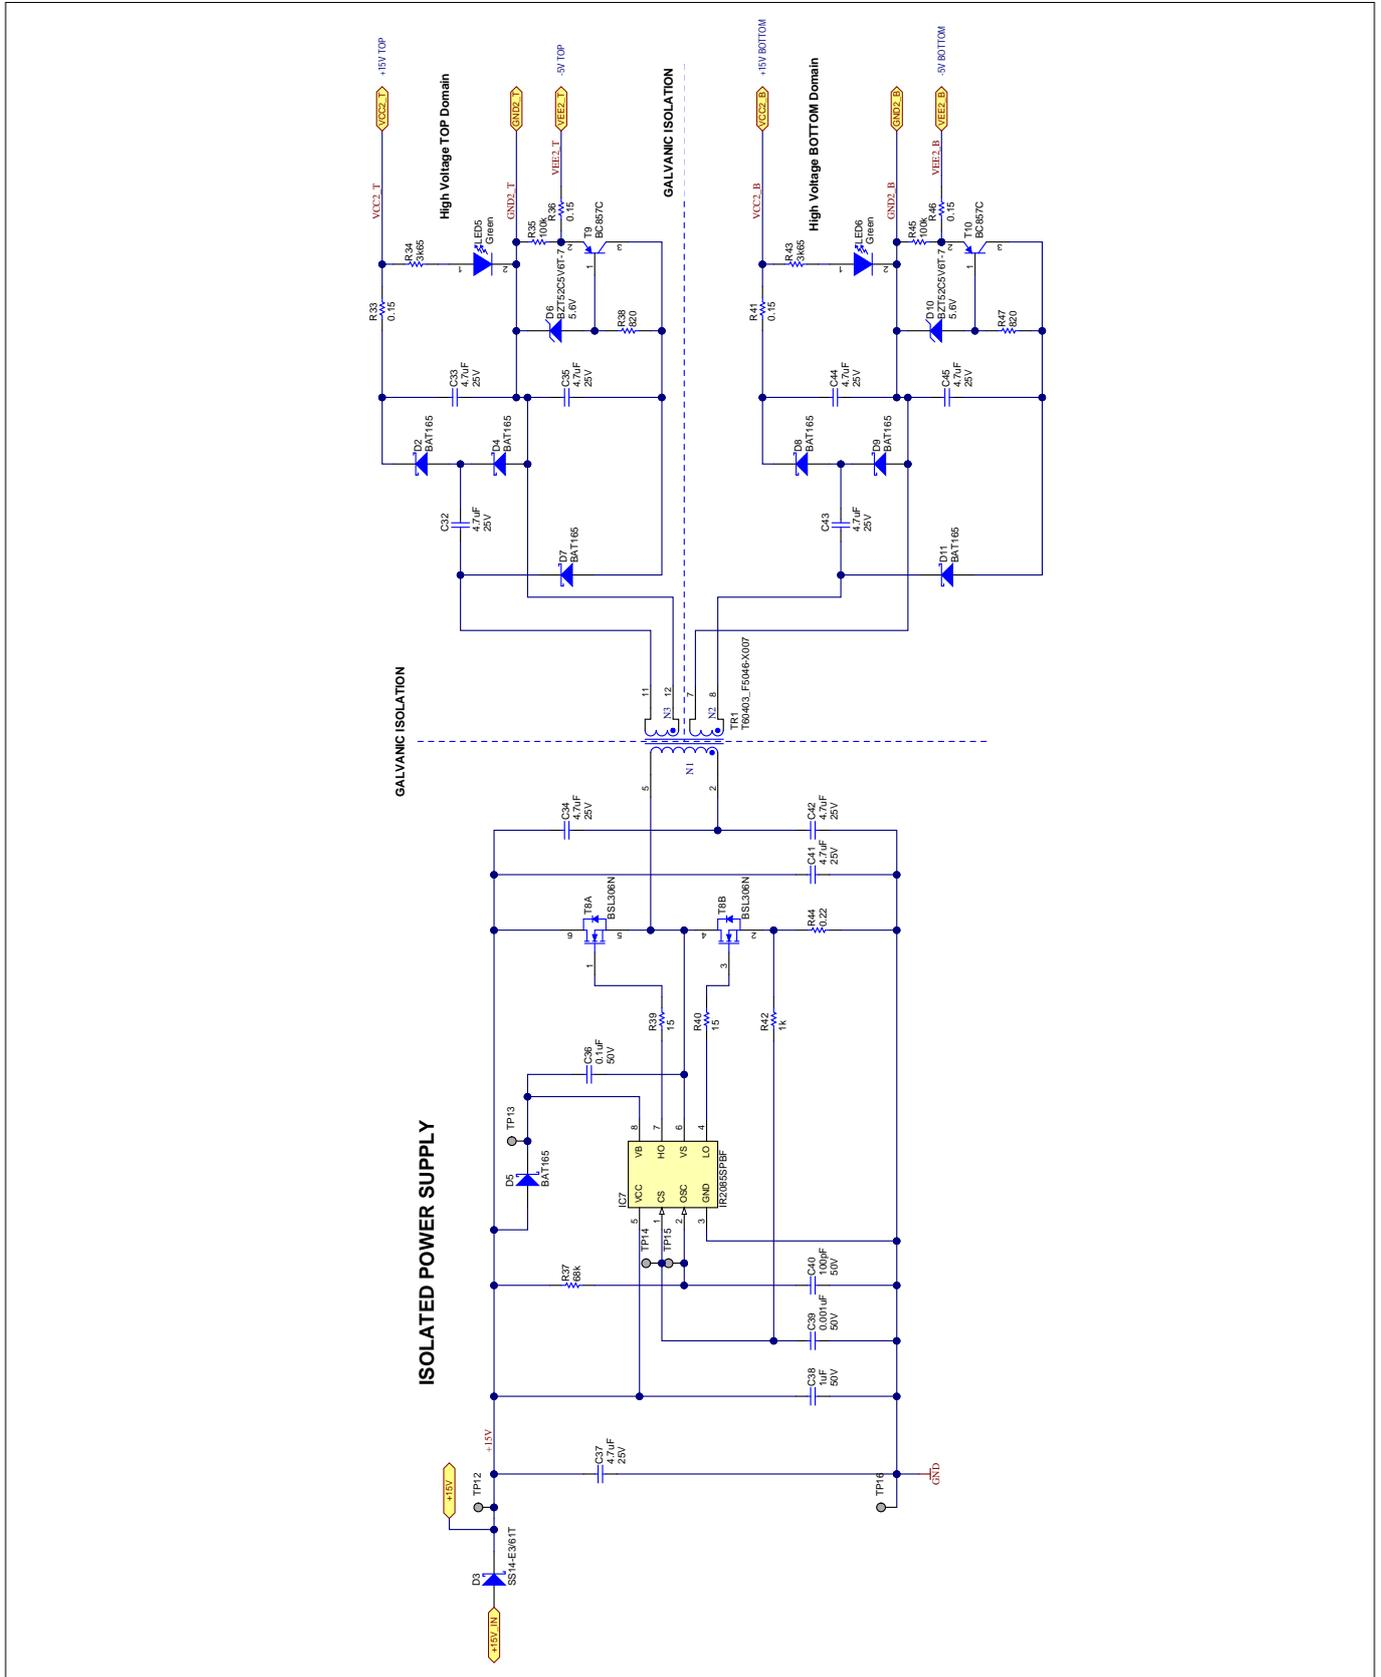

Figure 5 Power supply schematic
- Power supply schematic, see Figure 5, DC-DC converter to generate the isolated power supply for the high side and the low side gate driver out of the +15V supply voltage.
The power supply schematic in Figure 5 is showing the galvanic isolated DC-DC converter to generate the isolated supply VCC2_T and VEE2_T to supply the high side driver and VCC2_B and VEE2_B to supply the low side driver.